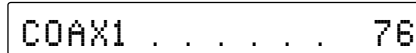

Figure 1
1. Press the STANDBY/ON Push-button on the Front Panel or press the  (Power) Push-button on the Remote Control to switch On the D150. The D150 will go through a brief startup initialization with the Front Panel Information Display indicating the last used Input Source and Volume Level. Refer to figure 1.